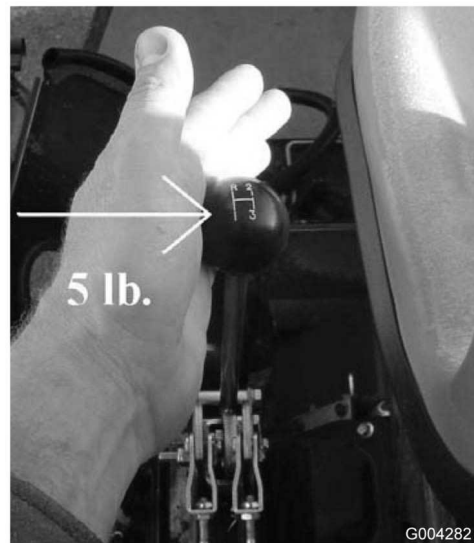

Figure 28
1. With the shift selector installed, stand over the assembly and apply light force (approximately 5 lbs) on shift lever toward the right side of the vehicle (Figure 28).